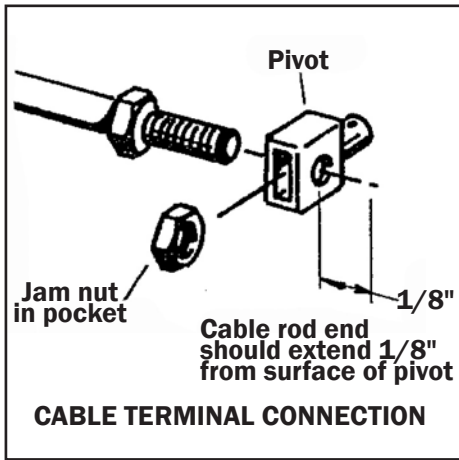

Figure 3.
**STEP 1.** Attach the Pivot to the end of the Shift cable, as shown in Figure 3.